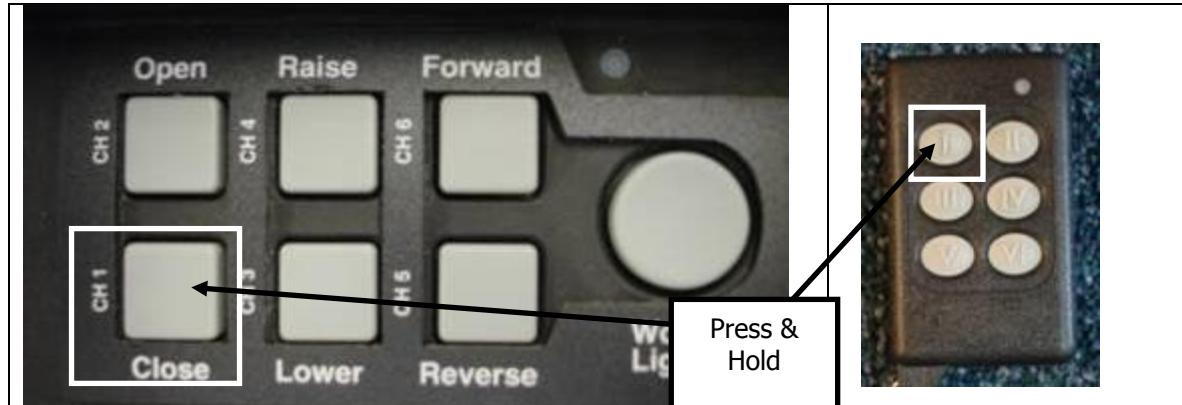

Figure 2
2) Always deploy 2-3 feet of tarp before moving the tower. To deploy tarp press & hold button 1 on the control box or the key fob (see Fig. 2), or on non remote systems there will be switch to wind and unwind your tarp. In rare cases with stationary pivot systems with a tall container, you may have to do this before pulling container all the way onto the truck/trailer (see step 4 below).